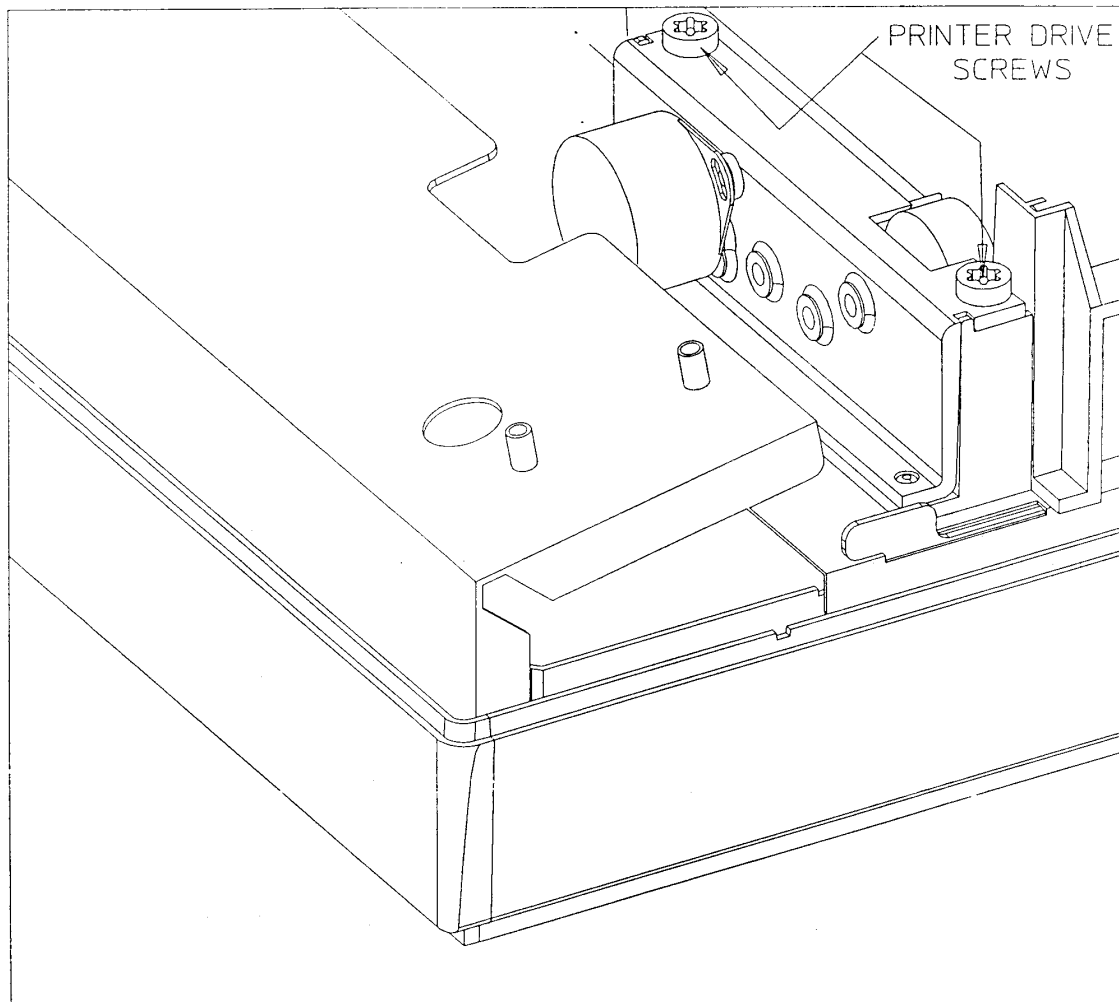

Figure 7-6. Printer Drive and Keyboard Ground Plane Screw Locations.
5. Remove the two screws (see Figure 7-6) that attach the plastic gear housing to the cardiograph.